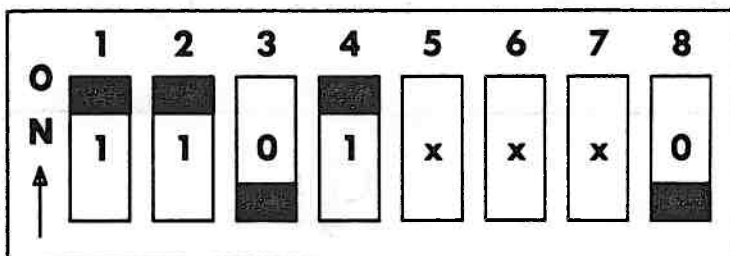

Figure 3-11. DIPSW-0 Setting for 512-KB Total RAM in System (256 KB on Motherboard, 256-KB Memory Expansion Board)
8. On DIPSW-0, set switches 1, 2, 3, and 4 for 512-KB Total RAM (Figure 3-11).